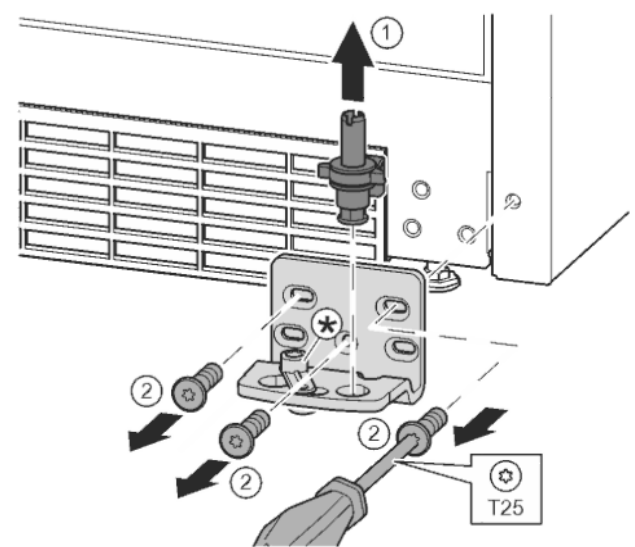

Fig. 10
- Lift the bearing bolts upwards and remove. Fig. 10 (1)
- Undo the screws with a T25 screwdriver and remove the mounting block. Fig. 10 (2)